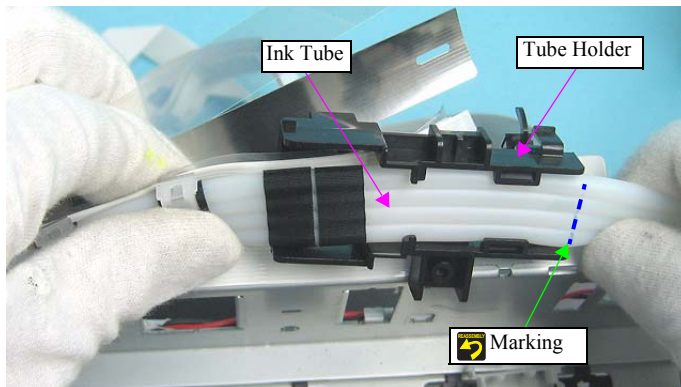

Figure 4-82. Removing the IC Holder Assy (7)
- Align the Tube Holder with the marking on the Ink Tube. See Figure.4-82.